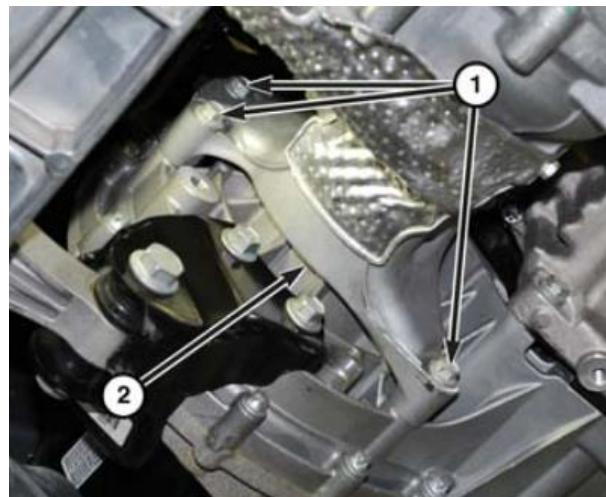

Figure 15 – PTU Bolts
3. Install the bolts (1) to hold the PTU (2) to the transmission and tighten to 48 N·m (35 ft. lbs.) (Figure 15).